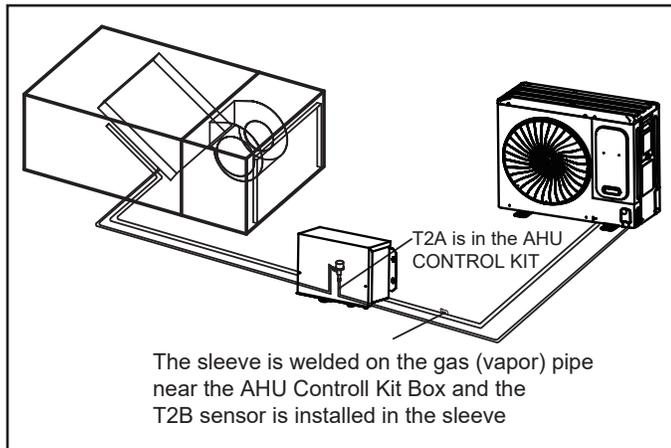

Figure 10. Sensor Location
2. Position the sensor on the gas (vapor) line near the AHU Control Kit box. See Figure 10.